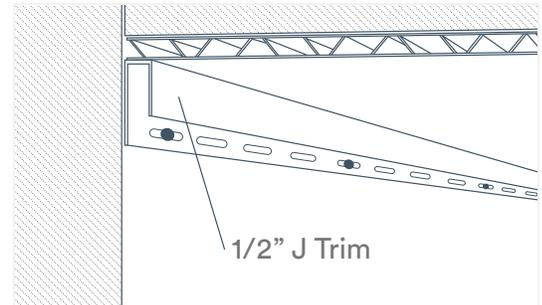

Fig.11
8. Install the last panel by inserting it into the groove of the previous panel and then immediately install the J Trim for the top of the wall below, by pushing the trim tight to the face of the ceiling panel(s) with the channel facing away from the panels and fasten to the wall. This will hold up the last ceiling panel that was not fastened (Fig. 11).